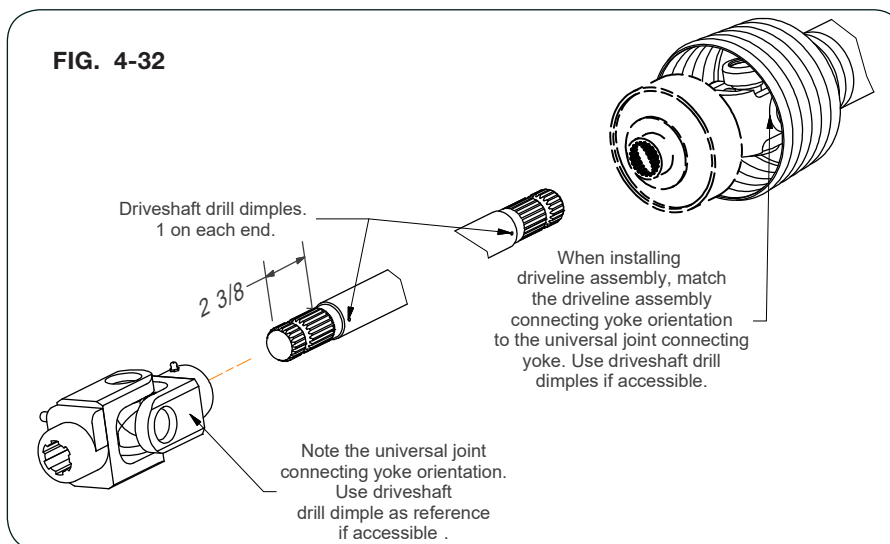

FIG. 4-32
12. Slide driveshaft down into the gearbox universal joint attached to the gearbox until the end of the shaft extends into the universal joint about $2\frac{3}{8}$ ". Ensure universal joint and driveshaft splines completely engage. Verify the hitch end for adequate length for driveline assembly to connect. (Fig. 4-32)